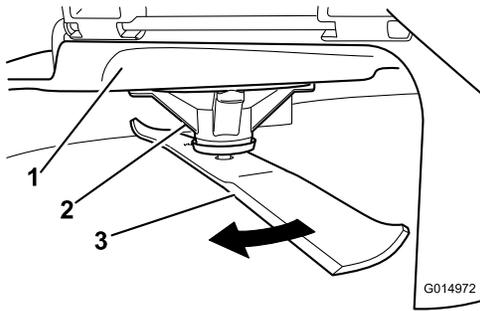

Figure 99
2. While wearing thickly padded gloves, or other adequate hand protection, slowly rotate the blade into a position that allows you to measure the distance between the cutting edge and the level surface the machine is on (Figure 99).